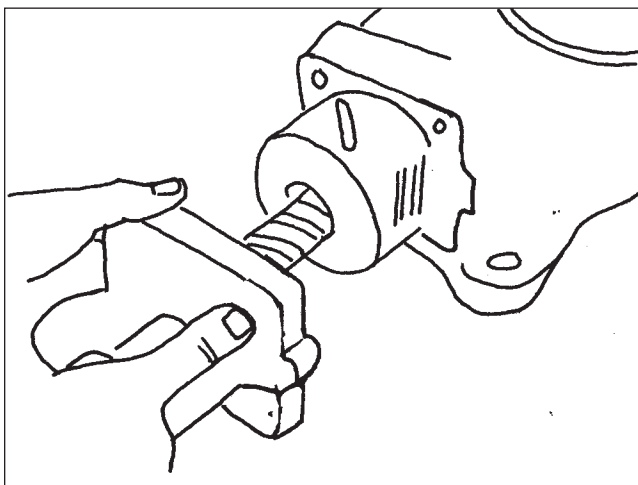

Figure 124
5. Insert the bearing cap and actuating shaft assembly into the piston as shown (**Figure 124**).